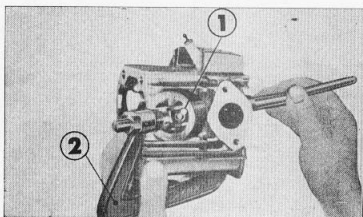

Figure 10. ① Valve cotter ② Valve lifter
10. Disassemble the valve by using the valve removal tool (Tool No. 07957-3290000). (Fig. 10)